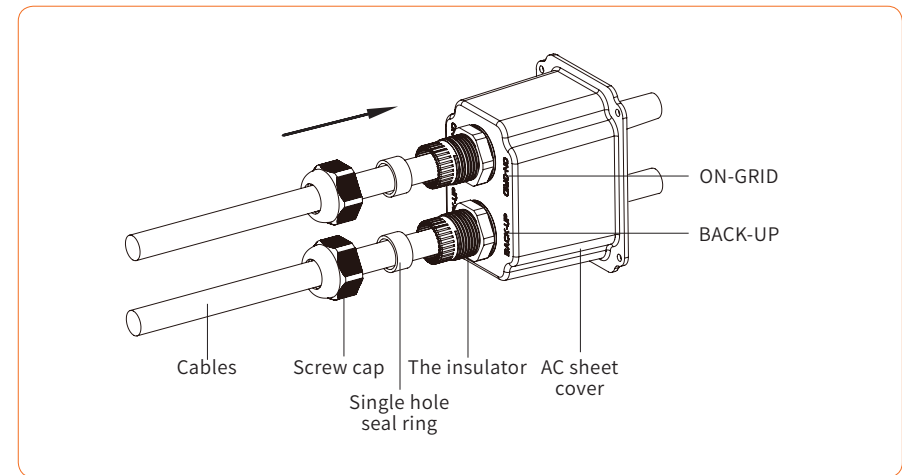

Figure 4-28
② Insert the stripped AC cables through the AC connector cover in the sequence as shown in Figure 4-28: